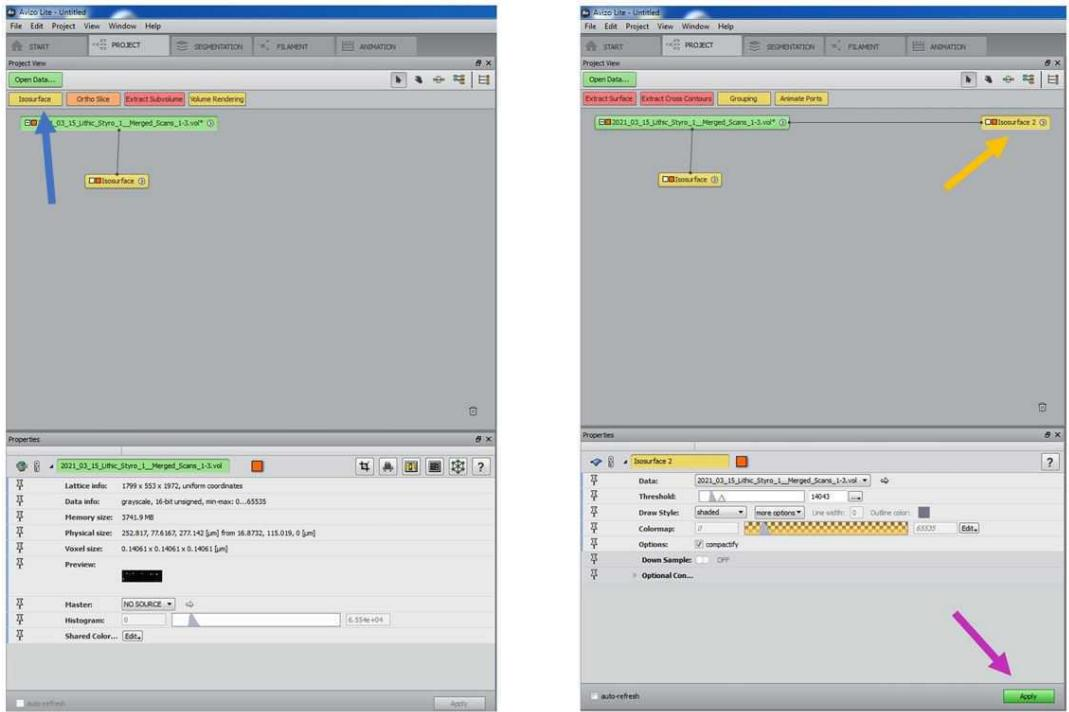

Fig. 17 (left) and 18 (right): Generation of cropped isosurface label.
- 23.1 Click on vol file label and then on the 'Isosurface' button (blue arrow in Fig. 17) that appears over the options bar to generate an isosurface of the scan (like **Step 21.1**).